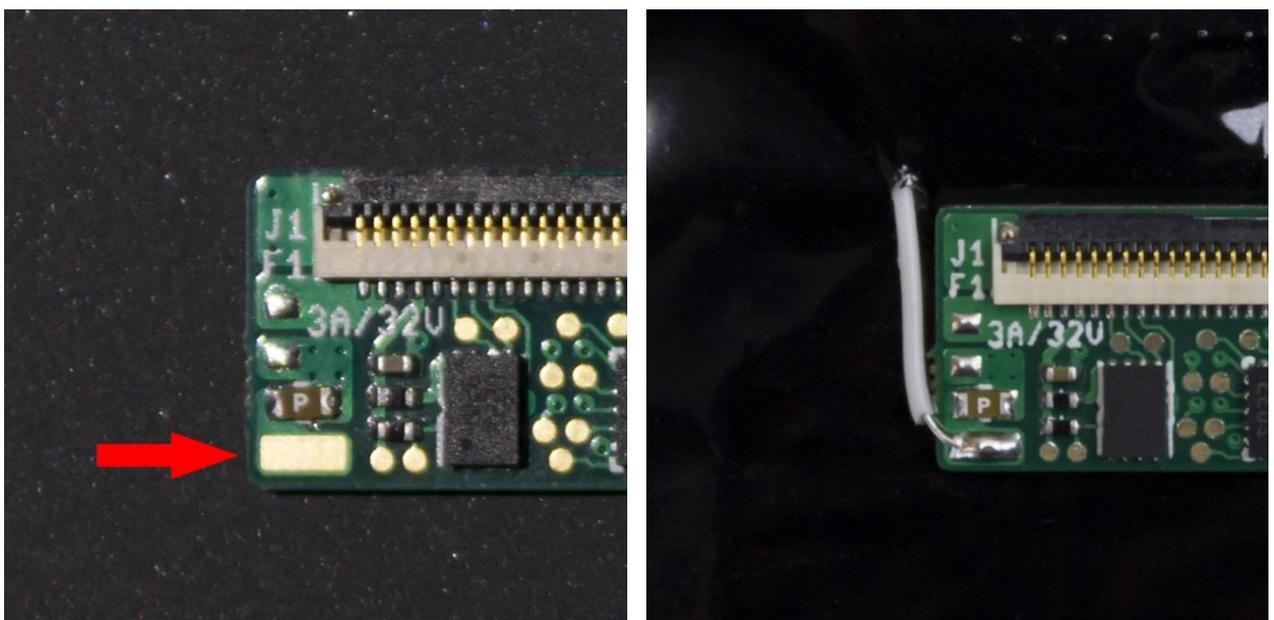

Figure 15. Auxiliary power wire pad on the adapter board
3. Once one end of the wire is soldered to the motherboard, cut it to the length enough to attach the other end to the pad on the adapter board (figure 15);